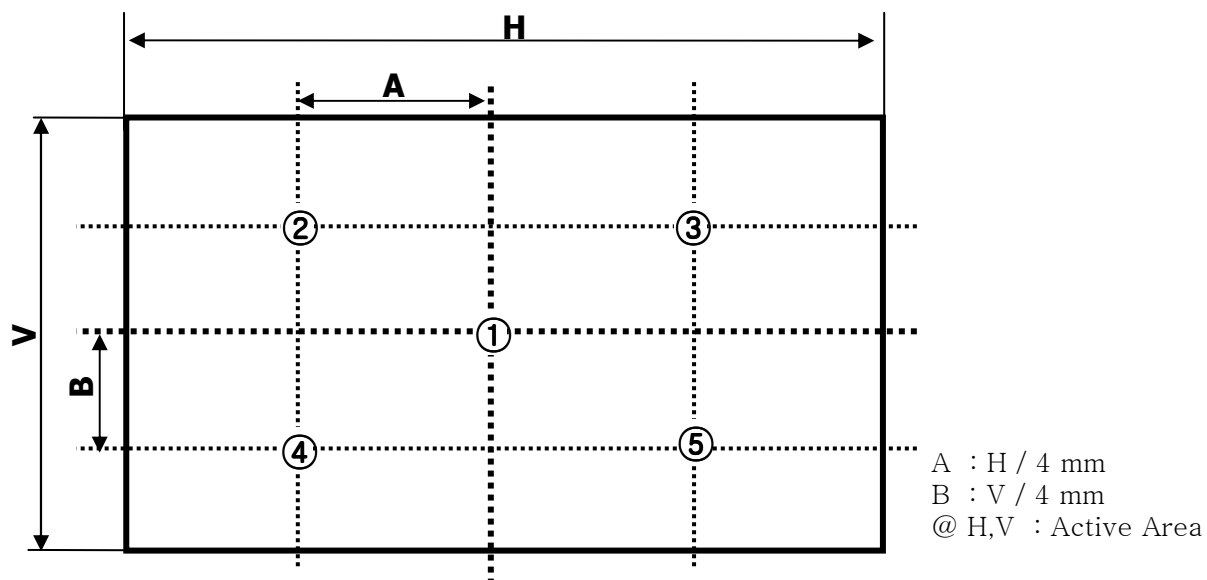

FIG. 2 Measure Point for Luminance
2. Surface luminance is determined after the unit has been 'ON' and 1Hour after lighting the backlight in a dark environment at  $25 \pm 2^\circ\text{C}$ . Surface luminance is the luminance value at center 1-point across the LCD surface 50cm from the surface with all pixels displaying white. For more information see the FIG. 2.
For more information, see the FIG. 2.